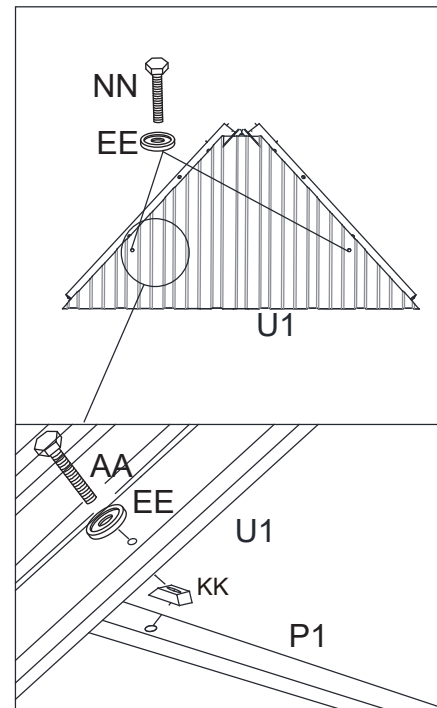
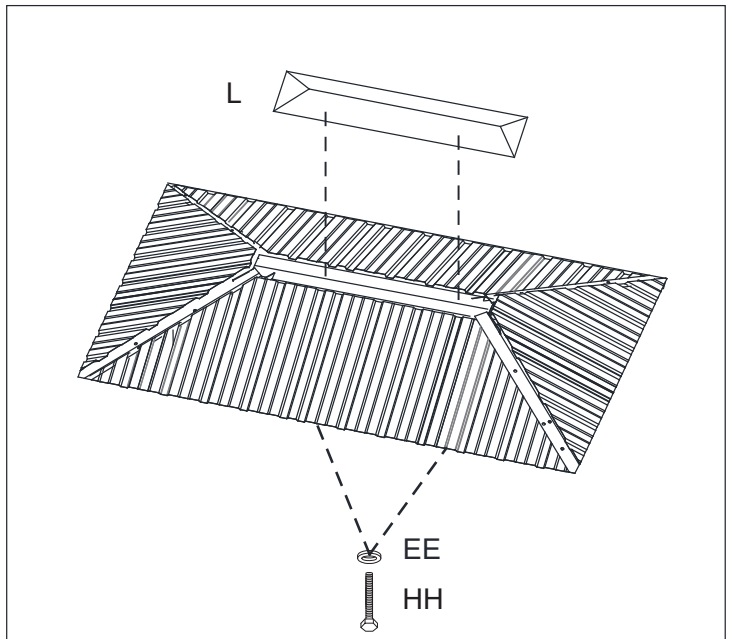

Figure 13-2
Figure 14-3
13.2: Attach Roof Vent Panel (U1) to the Roof Vent Frame and secure to Short Side of the Roof Vent (P1) using Bolt (NN/EE). See Figure 13-2.
14.3: Attach the Roof Vent Top Trim (L) to the Roof Vent Center Support (K2) using Bolts (HH) and washer (EE) .Tighten Bolts. See Figure 13-2 and Figure 14-3.